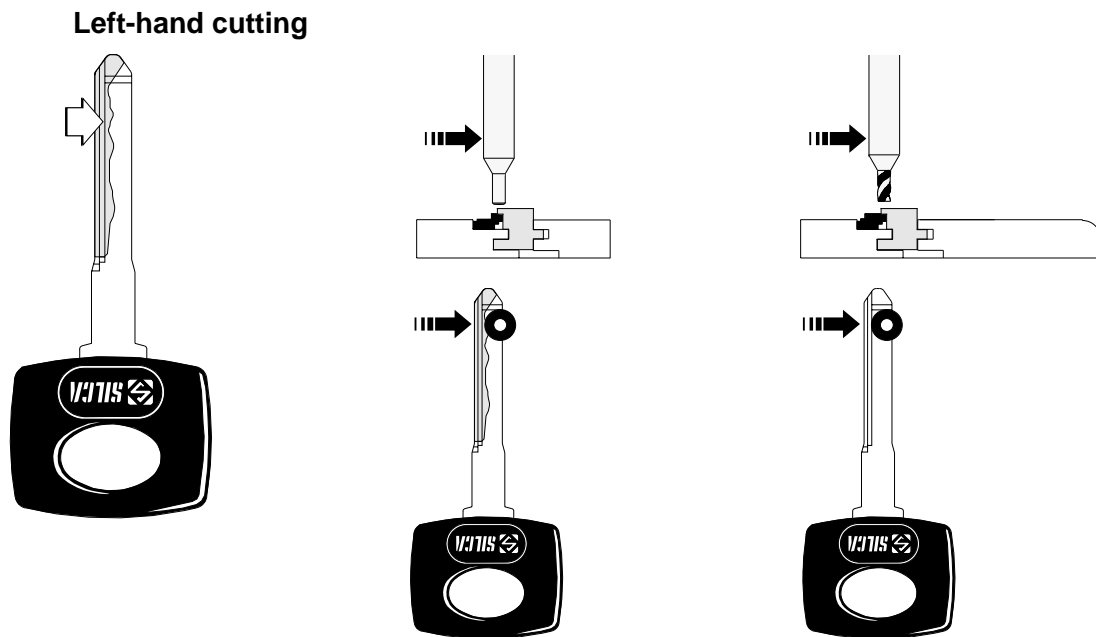

Fig. 12
take the cutter and tracer over the keys, positioning them to the right of the stems (fig. 12). Tighten knob (O) and carry out cutting operations.